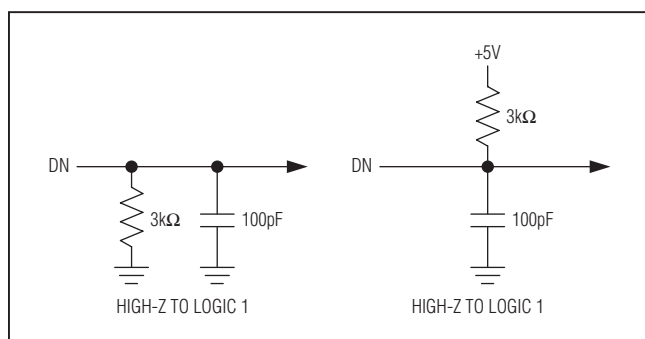

Figure 1. Load Circuit for Access Time Test
**Note 6:** Timing specifications guaranteed by design. All input control signals specified with tR = tF = 5ns (10% to 90% of +5V) and timed from a voltage level of +1.6V. See loading circuits in Figures 1 and 2.